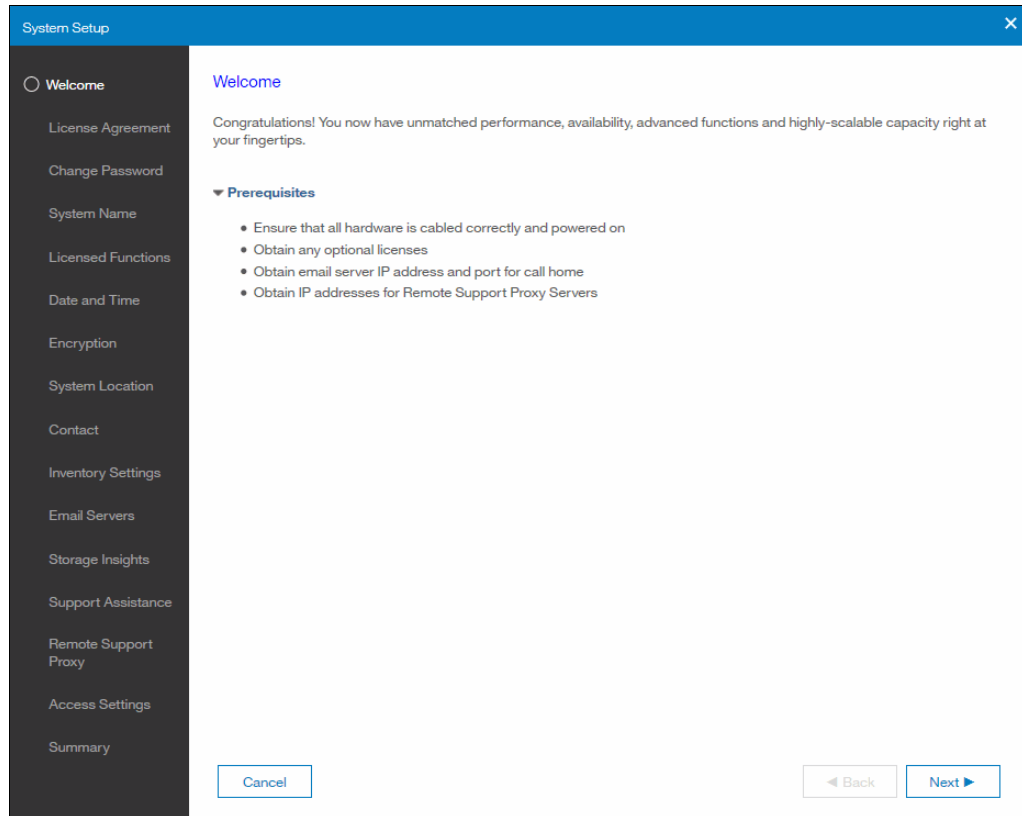

Figure 6-75 Welcome screen
4. The Welcome screen is displayed (Figure 6-75).